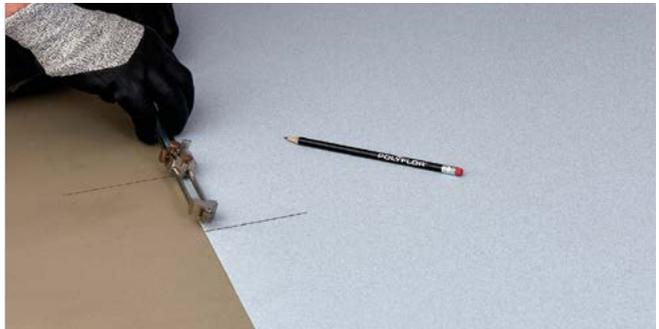

Figure 38 Scribing the wall profile
- ▶ Set the scribers to the distance now between lines C and D (fig. 38)